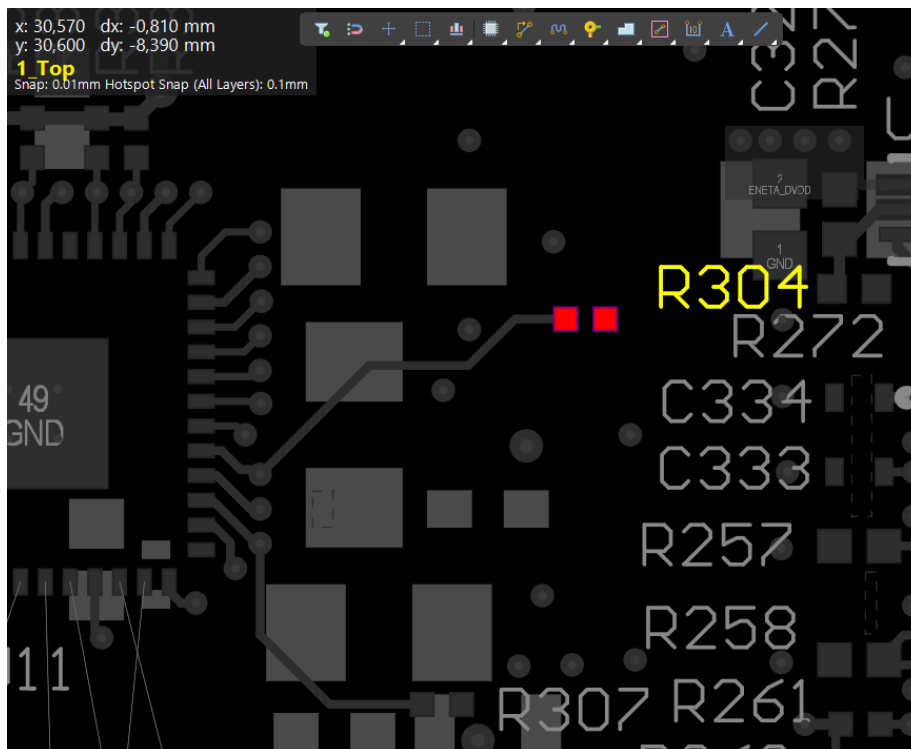

Figure 6. Search for R304
15. Search for R304 and change the zoom level so that you see R304 and the area around it, as seen in Figure 6. Feel free to choose the command you prefer to find R304 (**Jump - Component**, *PCB* panel, Search field, or other).